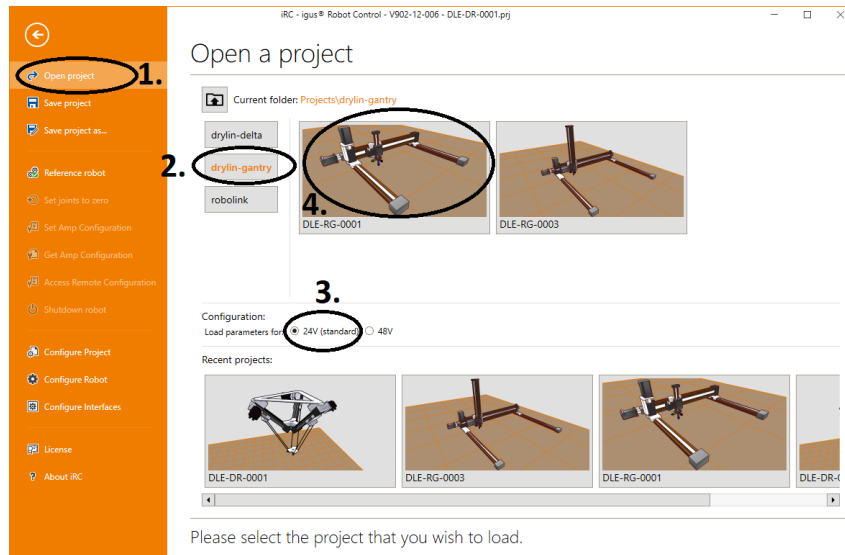

Figure 4: Choosing a project
2. Start the iRC software. At startup, you can select the project that applies to your robot. Please refer to the product number or product name, the project names are based on these (see Fig. 4).